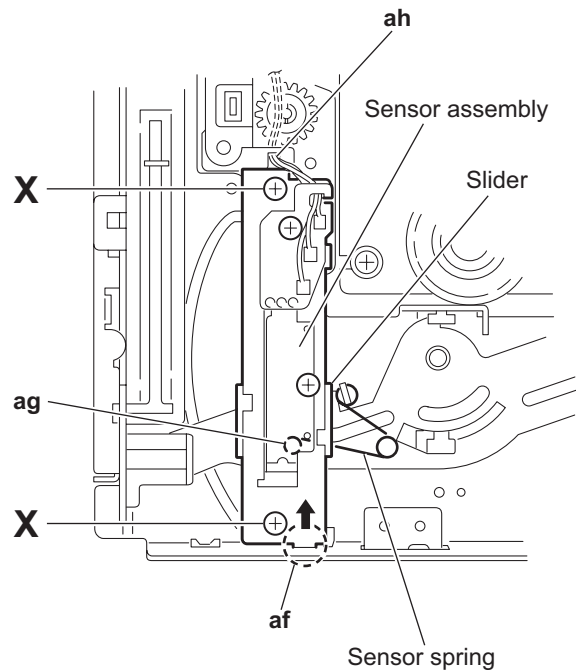

Fig.35
- (2) Remove the two screws **X** attaching the sensor assembly. (See Figs.35 and 38.)
- (3) Move the sensor assembly in the direction of the arrow to release from the joint section **af**. (See Figs.35 and 38.)
- (4) Remove the sensor spring attached to the bottom of the sensor assembly from the boss **ag** on the slider. (See Figs.35 and 36.)
- Let the wire extending from the sensor assembly through notch **ah** to the bottom of the DVD changer mechanism assembly. (See Figs.35 and 38.)